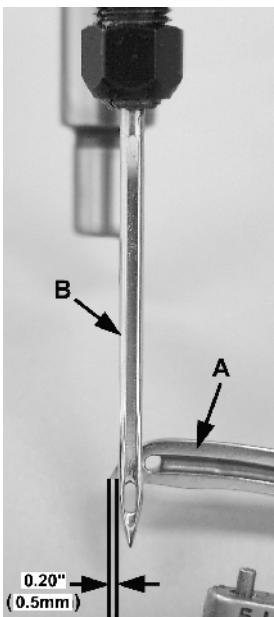
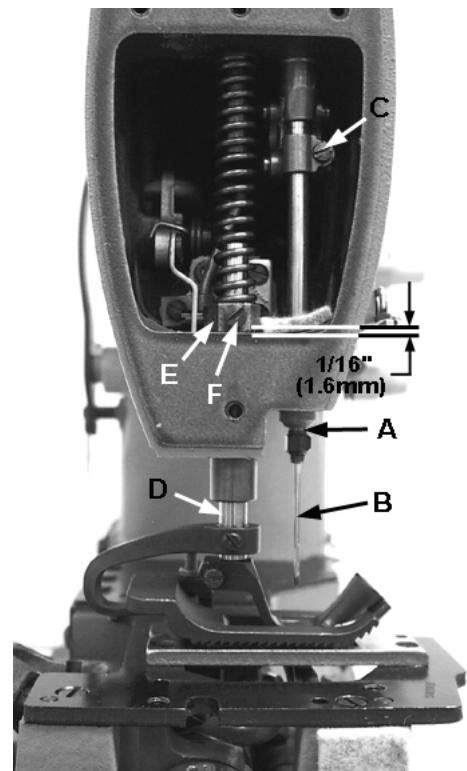

Fig 8
Fig 15
Turn handwheel to position point of looper (A, Fig. 8) 0.20" (0.5mm) past the left side of needle (B). At this time the top of the eye of the needle (B) should be even with the under side of the looper (A). To make adjustment, loosen screw (C Fig. 15) and move needle bar (A) up or down as required.
Height of presser bar (D, Fig. 15) is set correctly if it is possible to remove the presser foot when the foot lifter lever, located at the back of the machine and extending above the upper crank chamber cover is fully actuated (pulled to the right). There should be approximately  $1/16$  inch (1.6mm) clearance between lower surface of the presser bar connection and guide (E) and bottom surface of head opening in the bed when foot lifter lever is released and presser foot lying flat on the throat plate with feed dog below throat plate.